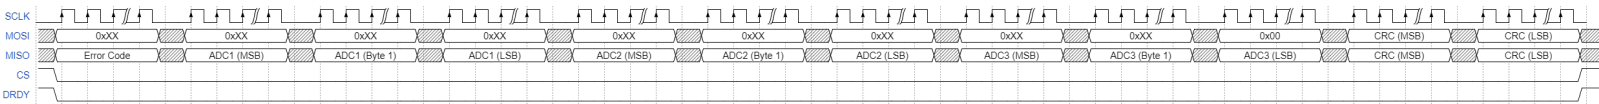

Figure 3.
*Note: Each clock in **Figure 3.** represents 8-bits.